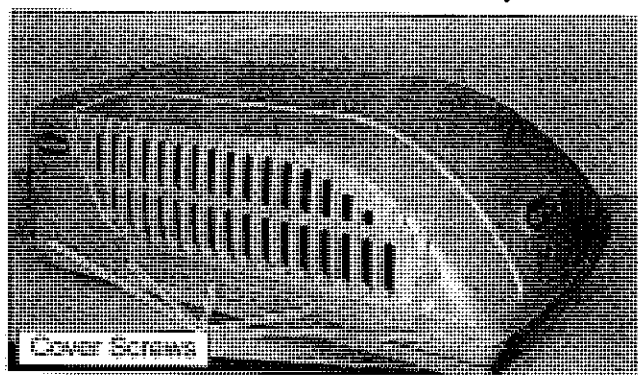

Figure 3-14 Cover Assembly
- b. Remove 15 screws securing the unit cover to the base pan assembly. See Figure 3-14.